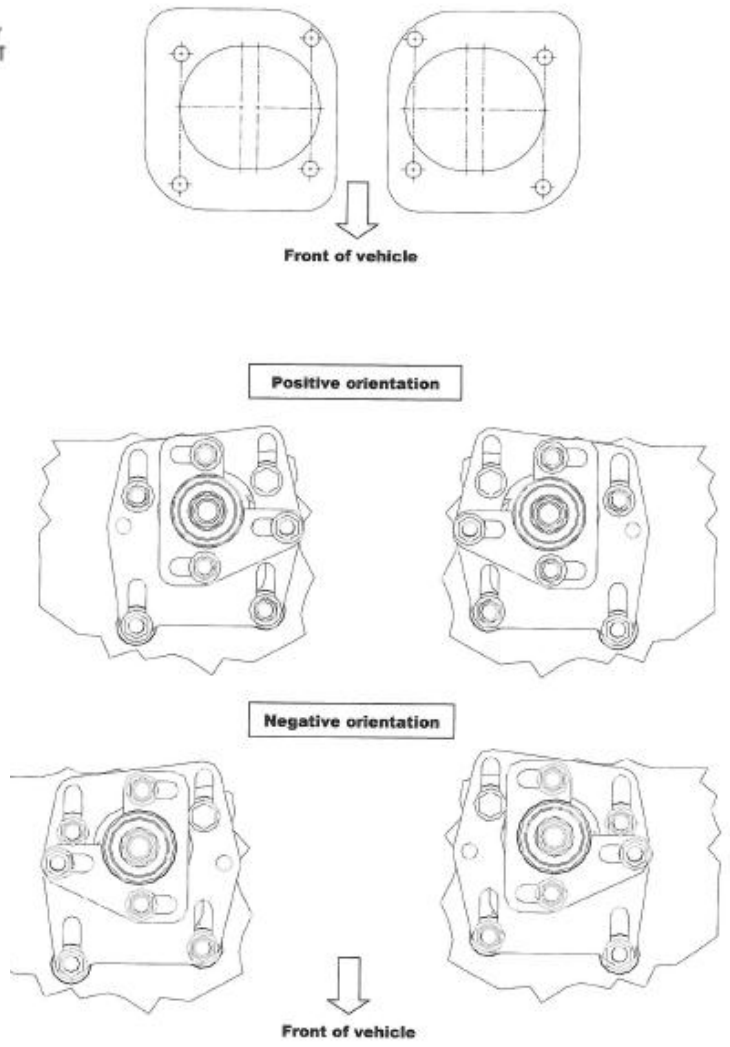

Figure 2
22. The orientation of the bearing housing assembly can be changed from "positive" to "negative" (See **Figure 2**). The majority of the cars will have the bearing plate in the "positive" orientation. Depending on the ride height (stock or lowered), the "positive" orientation of the bearing housing assembly will allow camber settings varying from positive to over one degree negative.
23. Using **Figure 2** as a guide, determine whether to install the bearing housing assembly's in the "positive" or "negative" position. To change the orientation of the bearing housing assembly's between positive and negative, you can swap the bearing housing assembly to the opposite sides of the car.